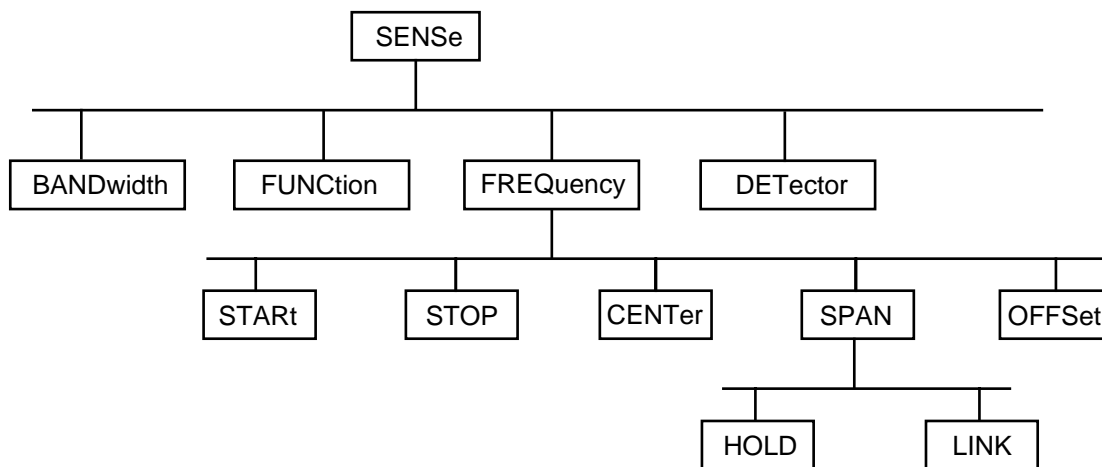

Fig. 5-1 Tree structure the SCPI command systems using the `SENSe` system by way of example
Fig. 5-1 illustrates this tree structure using a section of command system SOURce, which operates the signal sources of the devices. The other examples concerning syntax and structure of the commands are derived from this command system.
**Hierarchy:** Device-specific commands are of hierarchical structure (see Fig. 5-1). The different levels are represented by combined headers. Headers of the highest level (root level) have only one key word. This key word denotes a complete command system.
If the successive commands belong to the same system, having one or several levels in common, the command line can be abbreviated. To this end, the second command after the semicolon starts with the level that lies below the common levels (see also Fig. 5-1). The colon following the semicolon must be omitted in this case.